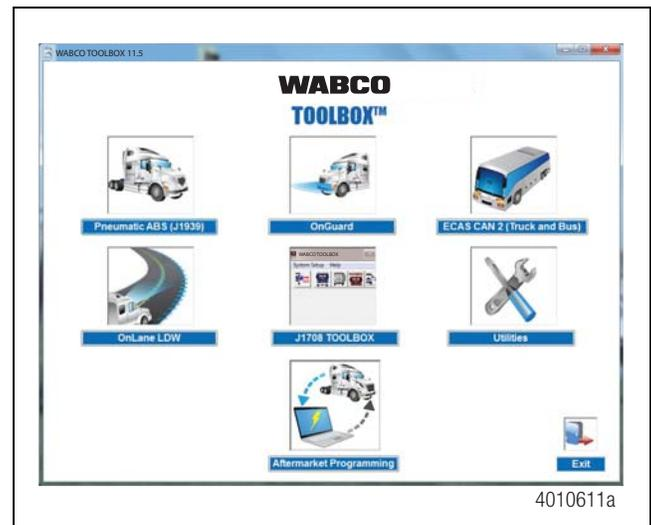

Figure 9.1
- If you are using TOOLBOX™ Software version 11 or higher and a vehicle with ECUs E4.4b or higher, Tractor ABS J1939 communications can be possible. Figure 9.1.